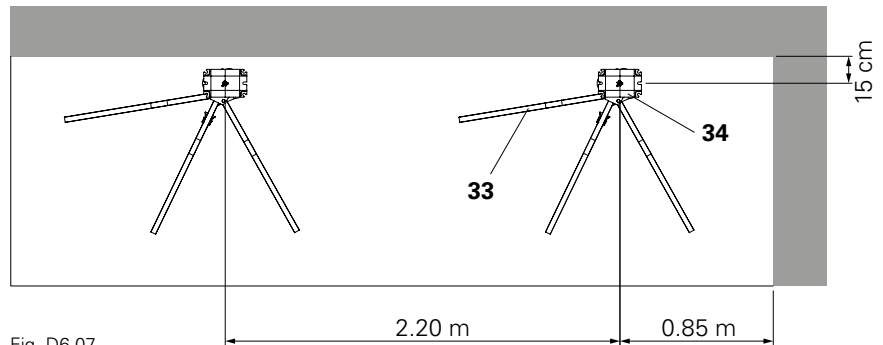

Fig. D6.07
1. Set up two slab props complete with crossheads (34) or lowering heads (for simplification purposes, not shown) and secure using tripods (33). Set up the first slab prop in the corner with a gap of 15 cm to the front wall, and:
- Set up the first slab prop with a 0.85 m gap to the front wall and the second slab prop at a distance of 2.20 m from the first. (Fig. D6.07)